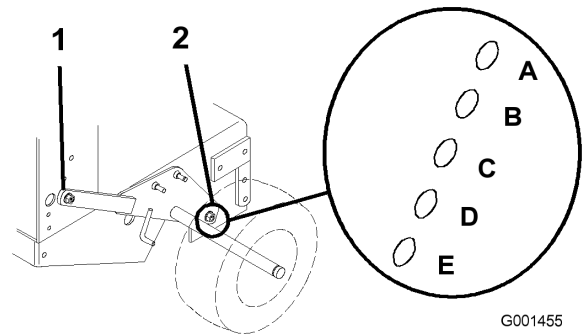

Figure 11
3. Loosen, but do not remove, the 2 axle pivot bolts and the 2 axle adjustment bolts (Figure 11).
4. Place a jack under the rear center of the engine frame. Raise the back end of the engine frame up enough to remove the front 2 axle adjustment bolts (Figure 11).
5. Raise or lower the engine frame with the jack so that you can install the front 2 axle adjustment bolts in the desired hole location (Figure 11).